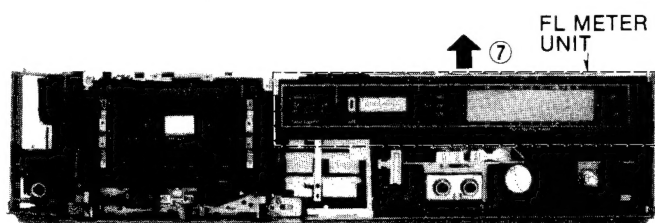
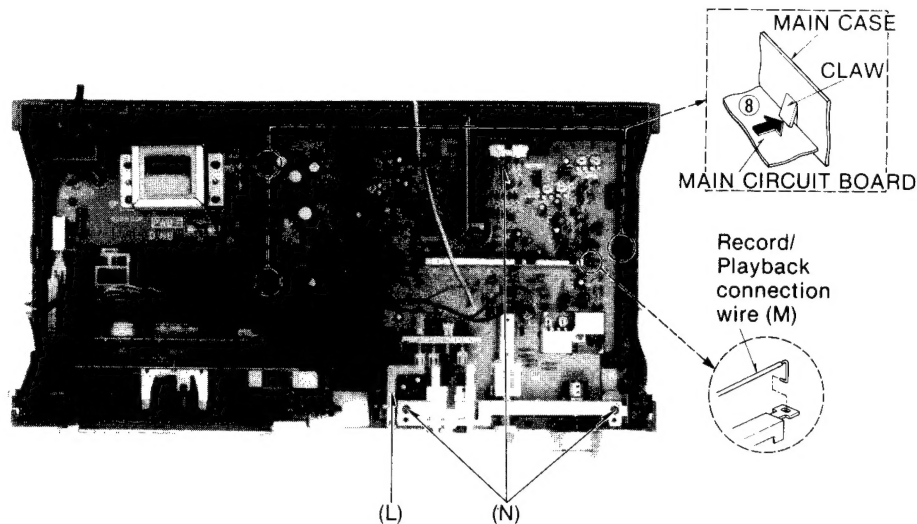

Fig. 4
Fig. 6
<p>B Head azimuth adjustment</p> <p>Condition:</p> <ul style="list-style-type: none"> • Playback mode • Normal tape mode <p>Equipment:</p> <ul style="list-style-type: none"> • VTVM • Oscilloscope • Test tape (azimuth)...QZZCFM <p>L-CH/R-CH output balance adjustment</p> <ol style="list-style-type: none"> 1. Make connections as shown in fig. 3. 2. Playback the 8kHz signal from the test tape (QZZCFM). Adjust screw (B) in fig. 4 for maximum output L-CH and R-CH levels. When the output levels of L-CH and R-CH are not at maximum at the same point adjust as follows. 3. Turn screw (B) shown in fig. 4 to find angles A and C (points where peak output levels for left and right channels are obtained). Then, locate angle B between angles A and C, i.e., and point where L-CH and R-CH outputs are balanced. (Refer to figs. 4 and 5.) <p>L-CH/R-CH phase adjustment</p> <ol style="list-style-type: none"> 4. Make connections as shown in fig. 6. 5. Playback the 8kHz signal from the test tape (QZZCFM). Adjust screw (B) shown in fig. 4 so that pointers of the two VTVMs swing to maximum and a lissajous waveform as illustrated in fig. 7 is obtained on the oscilloscope. 	<p>Fig. 3</p> <p>Fig. 4</p>